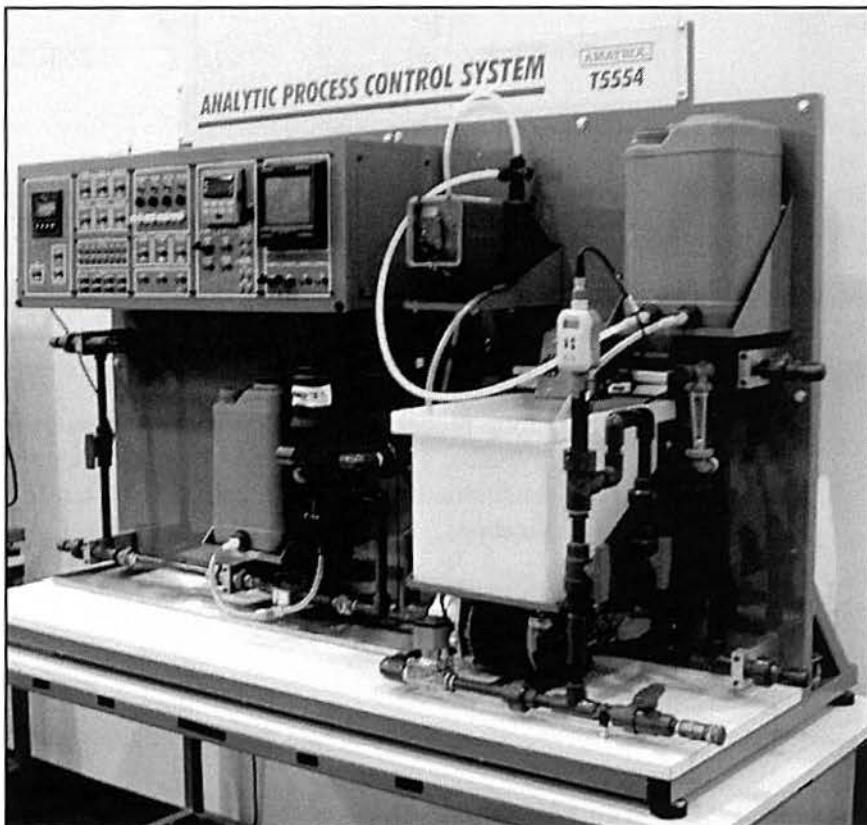

Figure 20. The Amatrol T5554 Analytical Process Control System
- 1. Locate the T5554 Analytical Process Control System, shown in figure 20.